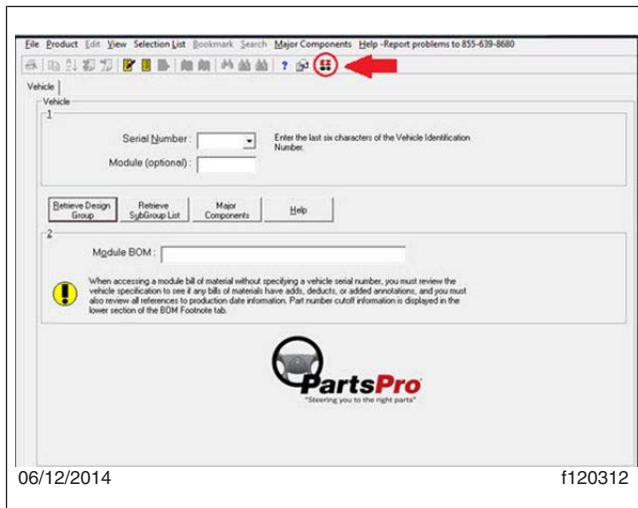
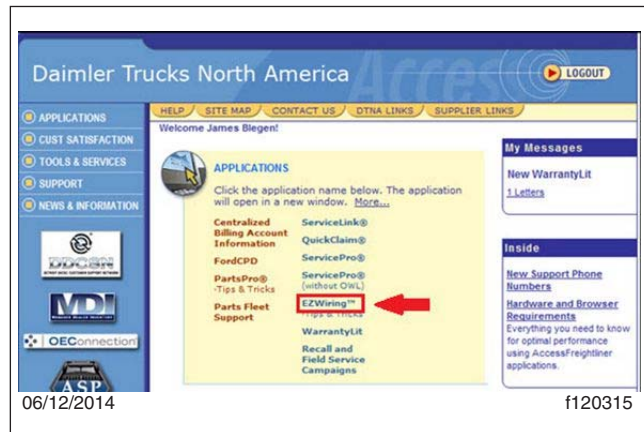

Fig. 1, EZWiring Application in PartsPro
Fig. 2, EZWiring Application in AccessFreightliner
1. Open the EZWiring application, either in PartsPro or AccessFreightliner. See Fig. 1 and Fig. 2.